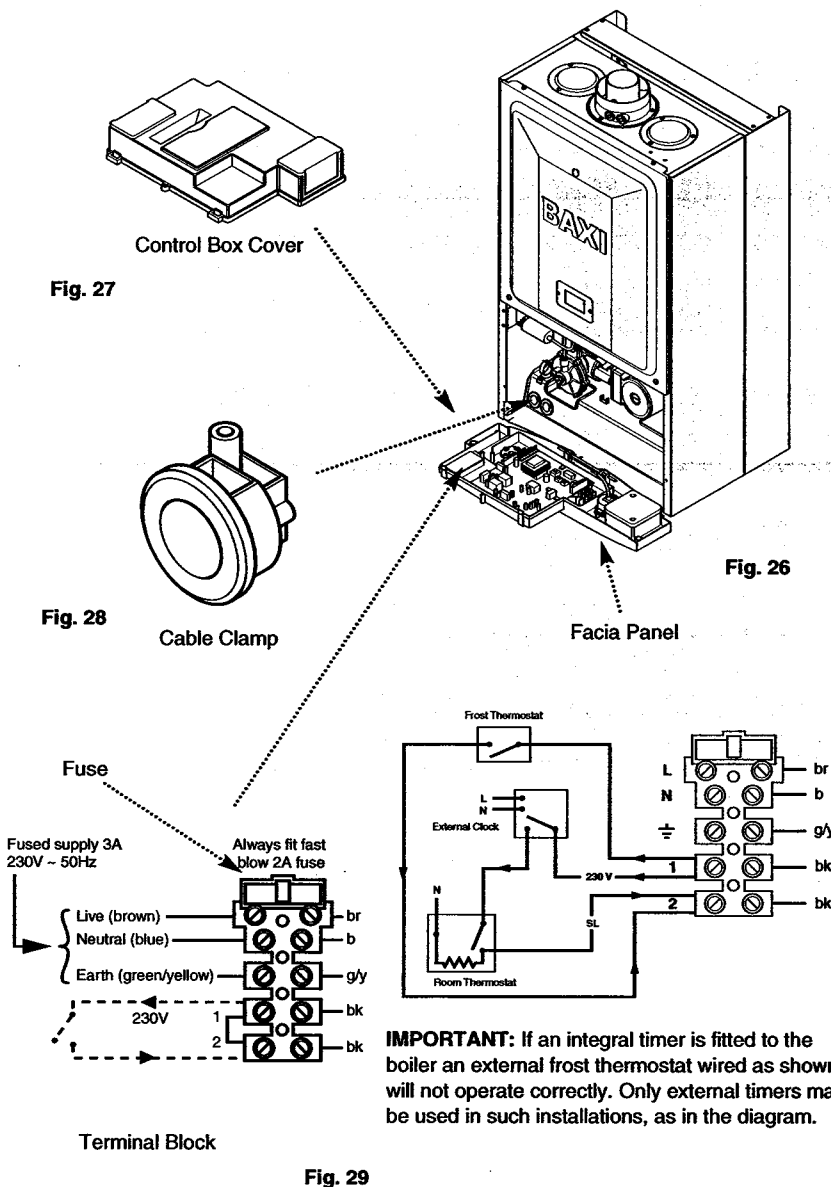

Fig. 29
7. To connect external control(s) remove the link between terminals 1 & 2. The 230V supply at terminal 1 must be connected to the external control. The switched output from the external control must be connected to terminal 2 (Fig. 29).
**NOTE:** If the room thermostat being used incorporates an anticipator it **MUST** be wired as shown in Fig. 29